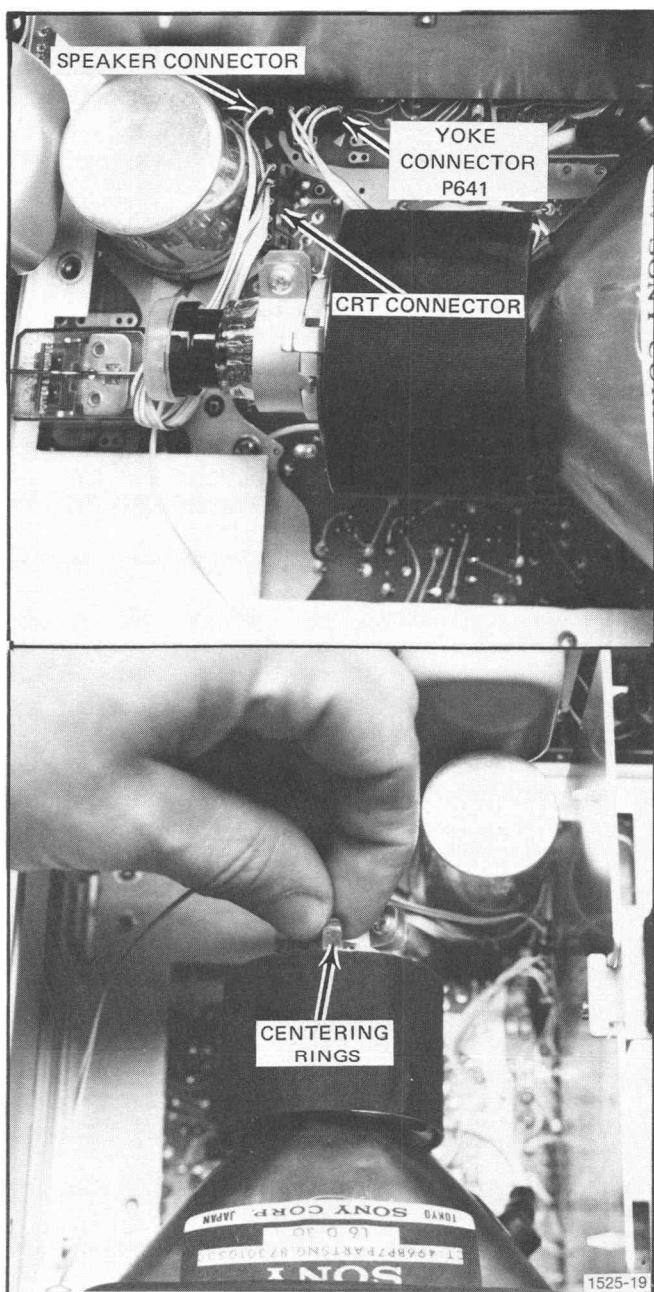

Fig. 5-5. Yoke Connector, P641 and spot centering rings.
- Turn POWER off and disconnect yoke plug, P641 (see Fig. 5-5). Turn POWER on.
- ADJUST—Spot to graticule center, using centering rings (see Fig. 5-5).